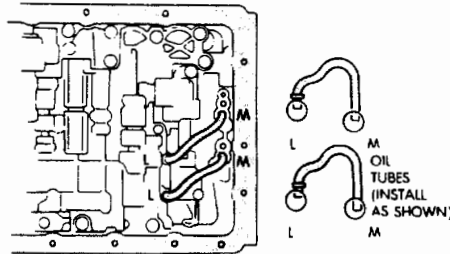

Fig. 18 Installing Valve Body Oil Tubes
- (6) Install valve body oil tubes. Be sure tube ends (L) and (M) are installed as shown in Figure 18.
- (7) Remove old sealer material from oil pan and transmission case.
- (8) Clean oil screen and oil pan with solvent (if not done previously). Dry both components with compressed air only. Do not use shop towels.